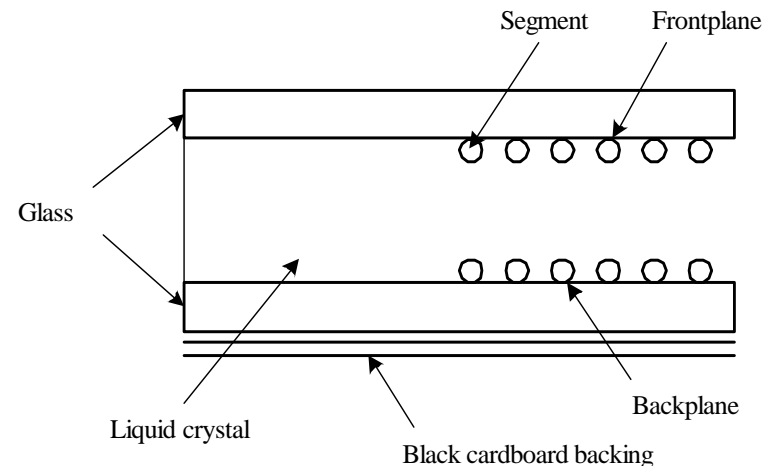

Figure 7.34 A liquid crystal display (LCD)
- ❑ The basic construction of an LCD is illustrated in Figure 7.34.